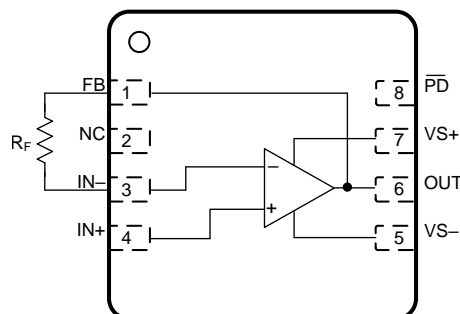

图 50.  $R_F$  Connection Between FB and IN- Pins
1. A feedback resistor ( $R_F$ ) can connect between the FB and IN- pin on the same side of the package (see 图 50) rather than going around the package.